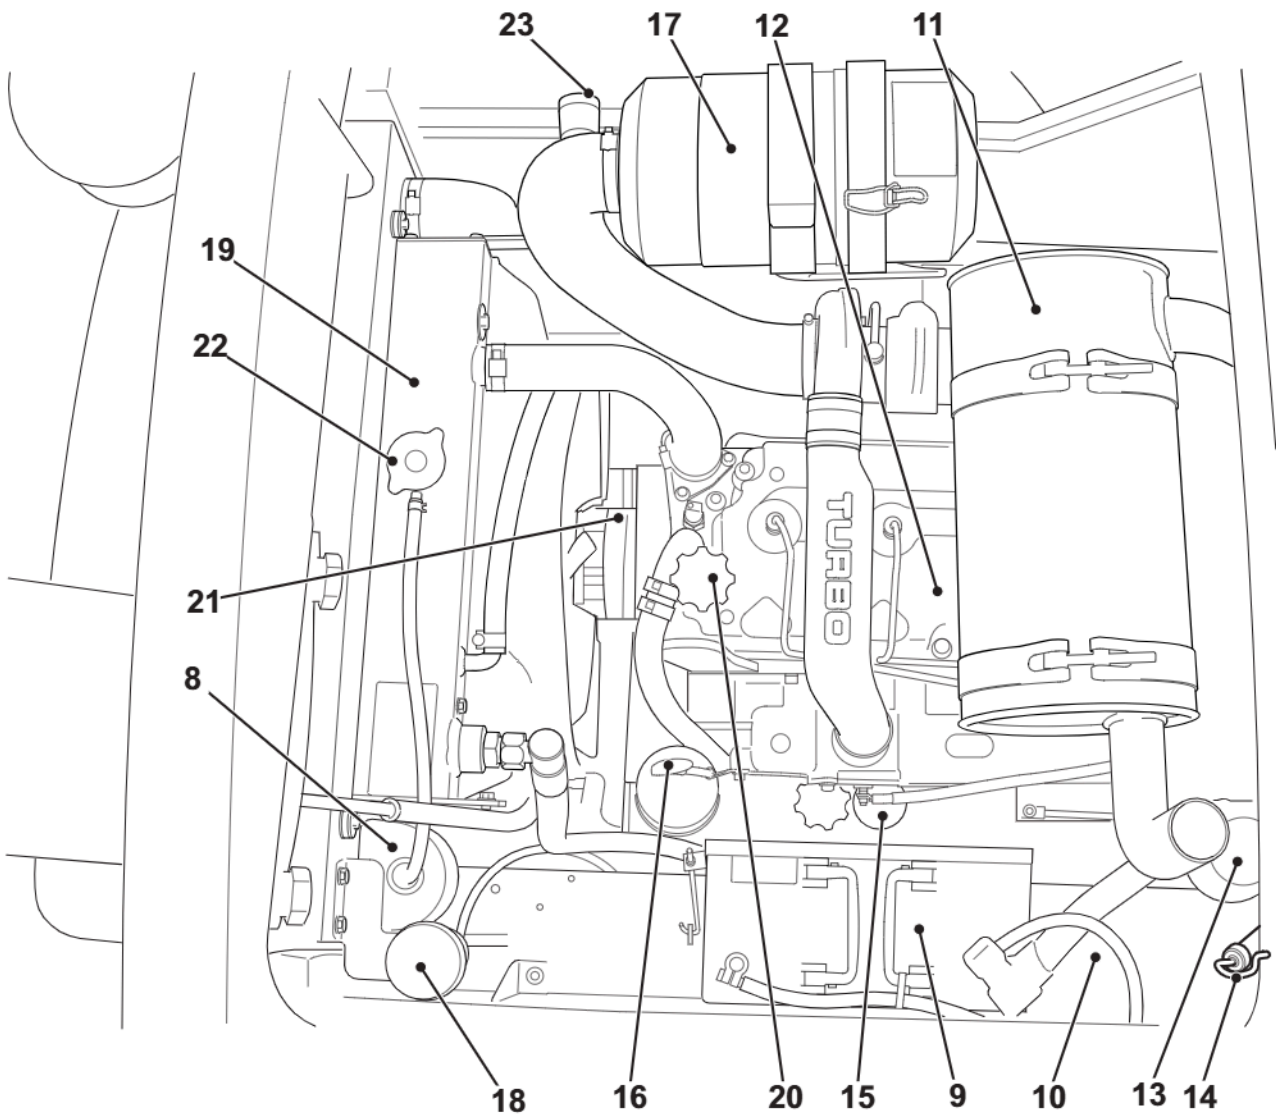

Fig 3. Engine Compartment
- Items 8 to 22: → Fig 3. \(□ 4\).